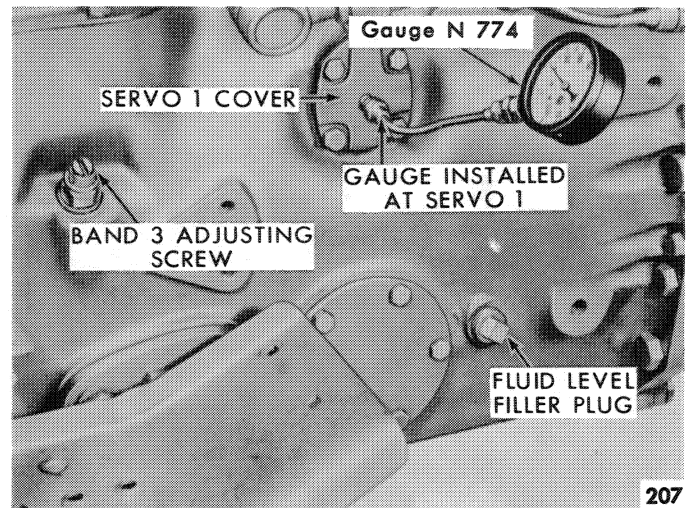

Figure 75—Gauge Installed in Servo 1
1. Remove the plugs from the servo 1 cover on the right side of the transmission and the interlock cover on the left side and install the pressure gauges, as shown in Figures 75 and 76, using suitable fittings and tubing.